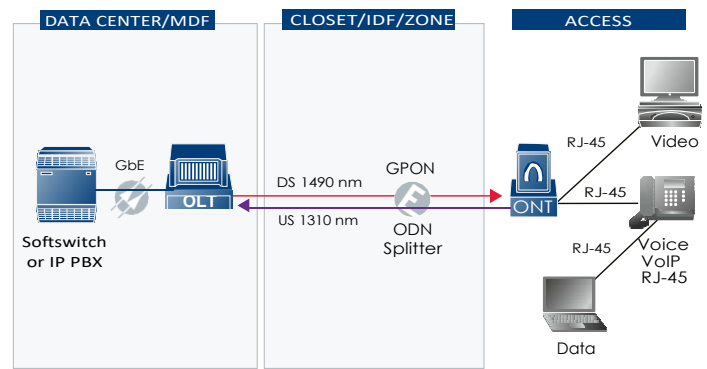

Figure 2: VoIP over Optical LAN architecture
**Voice** — Providing the same services as a legacy switching architecture, VoIP handsets are connected at the Optical Network Terminals (ONTs) via a standard RJ-45 gigabit Ethernet port. The VoIP service is transported to IP PBX or softswitch as standard IP/Ethernet traffic [Figure 2].